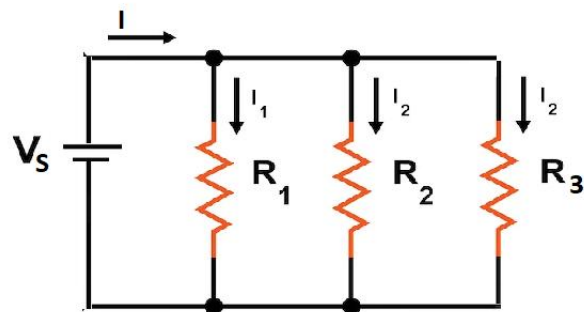

Fig. 2 Circuit for KCL
1. **Set up the circuit** on the breadboard as shown in the Fig. 2 using the resistors, power supply, and connecting wires.